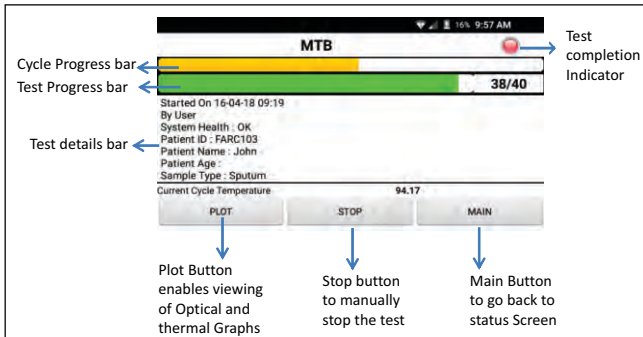

Figure 30: The Test Status Screen
4.4.1.2 When it has finished initializing, the In-use LED Indicator on the **Truelab® Quattro** micro PCR Analyzer will glow Green and the **Test Status Screen** will appear. This indicates that the test has started. In addition screen appears as shown in Figure 30. Result page can also be viewed by pressing 'Results'.